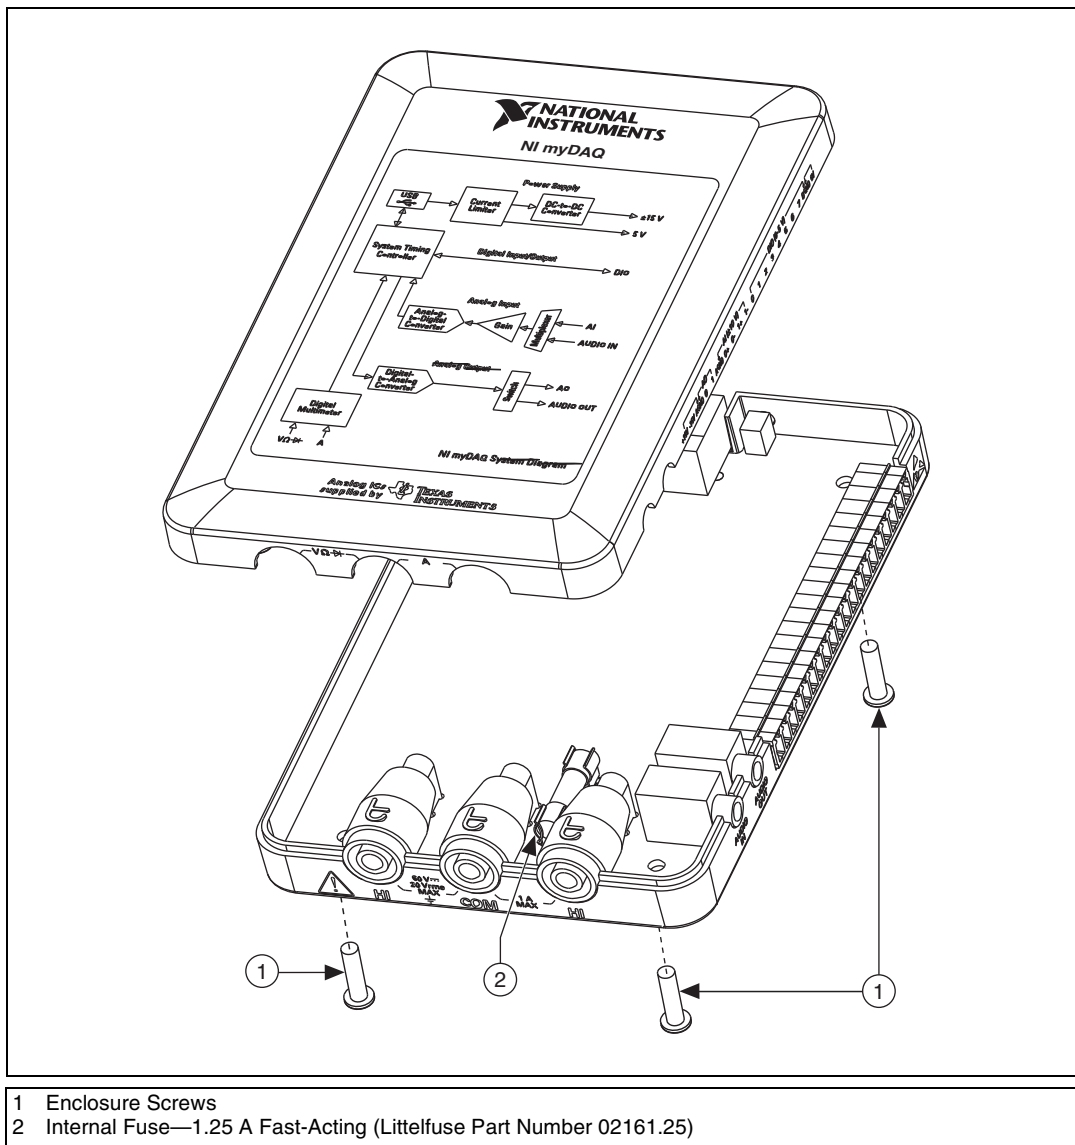

Figure 10. NI myDAQ Fuse Location
4. Replace the broken fuse while referring to Figure 10 for the fuse location, taking care to not damage any components on the board.